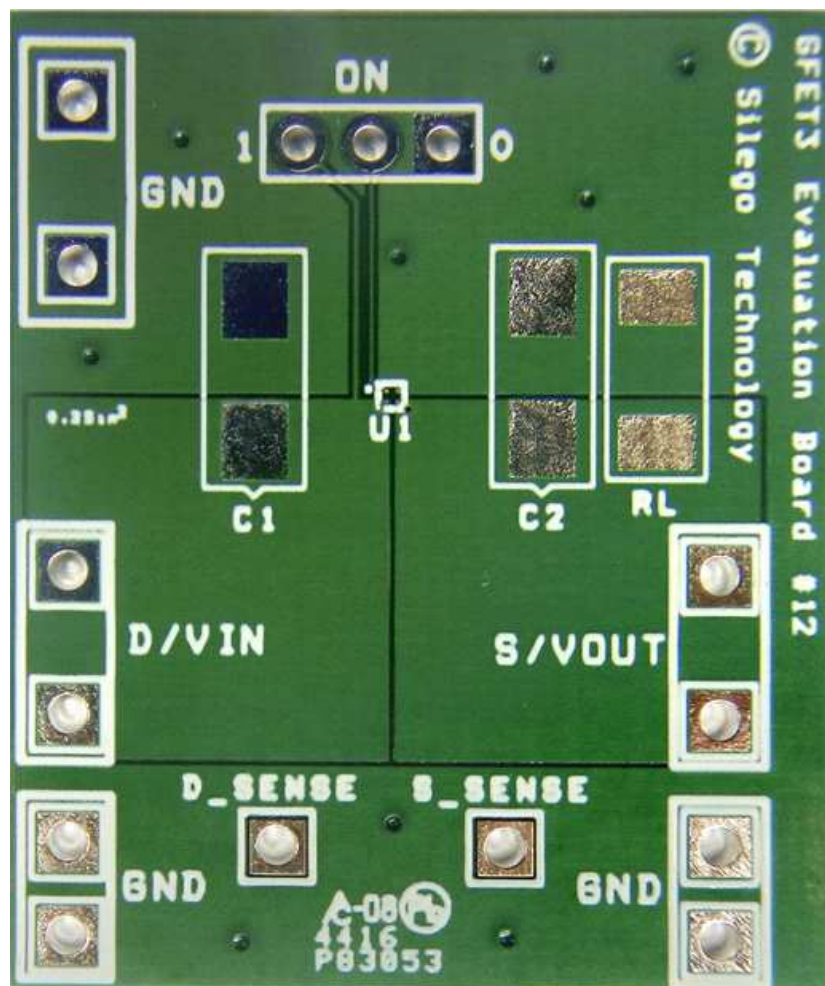

Figure 8. SLG59M1748C Evaluation Board
1. Since the VIN and VOUT pins dissipate most of the heat generated during high-load current operation, it is highly recommended to make power traces as short, direct, and wide as possible. A good practice is to make power traces with an absolute minimum widths of 15 mils (0.381 mm) per Ampere. A representative layout, shown in Figure 8, illustrates proper techniques for heat to transfer as efficiently as possible out of the device;
A GreenFET Evaluation Board for SLG59M1748C is designed according to the statements above and is illustrated on Figure 8. Please note that evaluation board has D\_Sense and S\_Sense pads. They cannot carry high currents and dedicated only for RDSON evaluation.